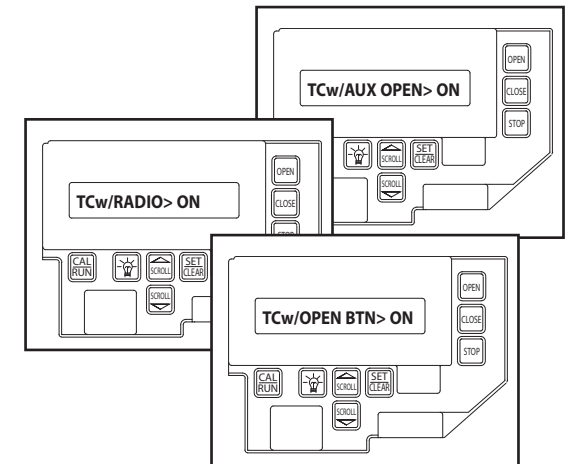

Fig. 5B Select Mode
5. Press the SCROLL ▼ key to select the inputs that will initiate a Timer Close operation. (Fig. 5B).